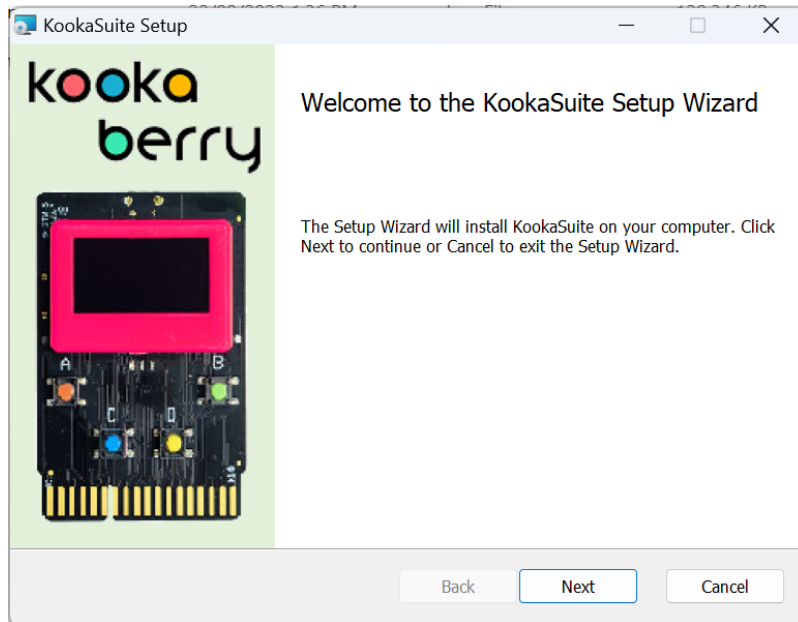

Fig. 1.2: Click on **Next** to proceed.
1. Double-click on the downloaded KookaSuite-<version>-Win64.msi file to launch the Windows Installer. The display in Fig. 1.2 will then appear.